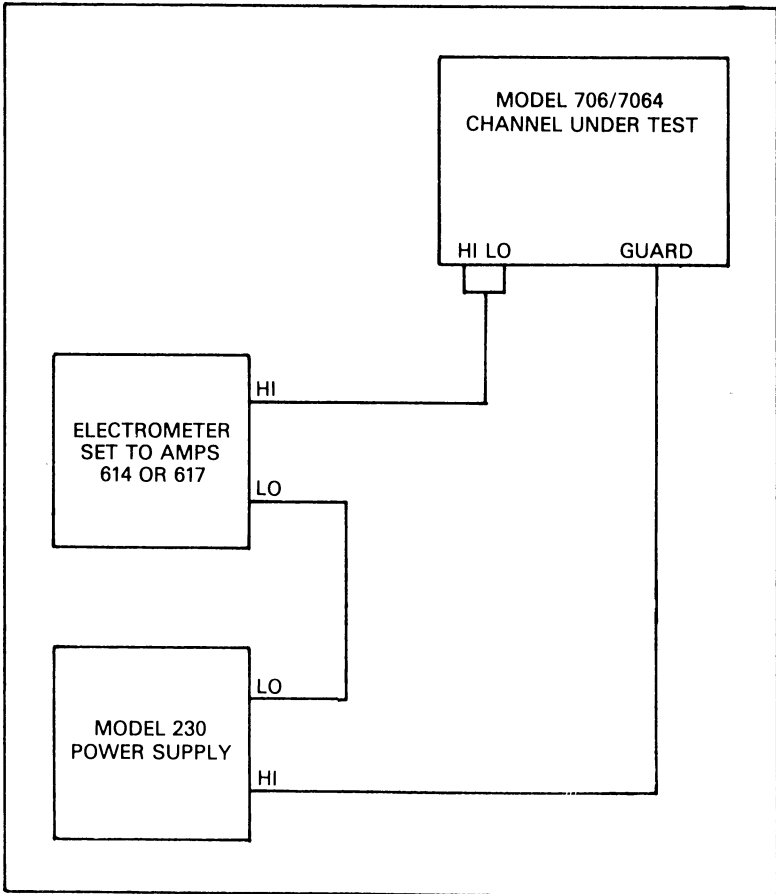

Figure 3-6. Common Mode Isolation Configuration
1. This test measures the leakage resistance between signal lines and guard. Set up the configuration shown in Figure 3-6.